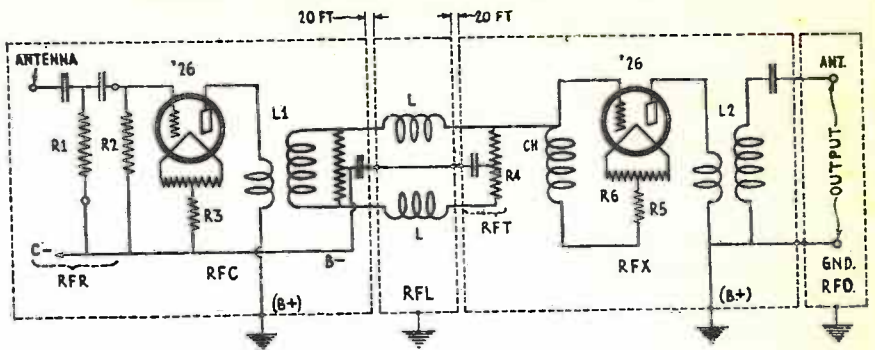

Fig. 68 - Diagram of the R.C.A. centralized radio system
(17) Centralized Radio System. This apparatus, made by R.C.A., will be found in many hotels and apartment buildings. Fig. 68 shows the circuit diagram. It couples a single aerial to as many as 80 receiving sets, without mutual interference, and comprises an RFC unit shown at the left in Figs. 68 and 69, which is mounted on the roof or near the aerial. This unit feeds as many as 8 RFX units (shown at the right of the above illustrations) by means of a twisted three-wire radio-frequency transmission line. Each RFX unit will feed up to 10 radio sets. The amplification gained in these units compensates for any transmission losses.
- at the right is shown the "RFX" or outlet unit which feeds the individual receivers. The "RFT" unit shown in the diagram of Fig. 68, appears only in the last "RFX" on the line.